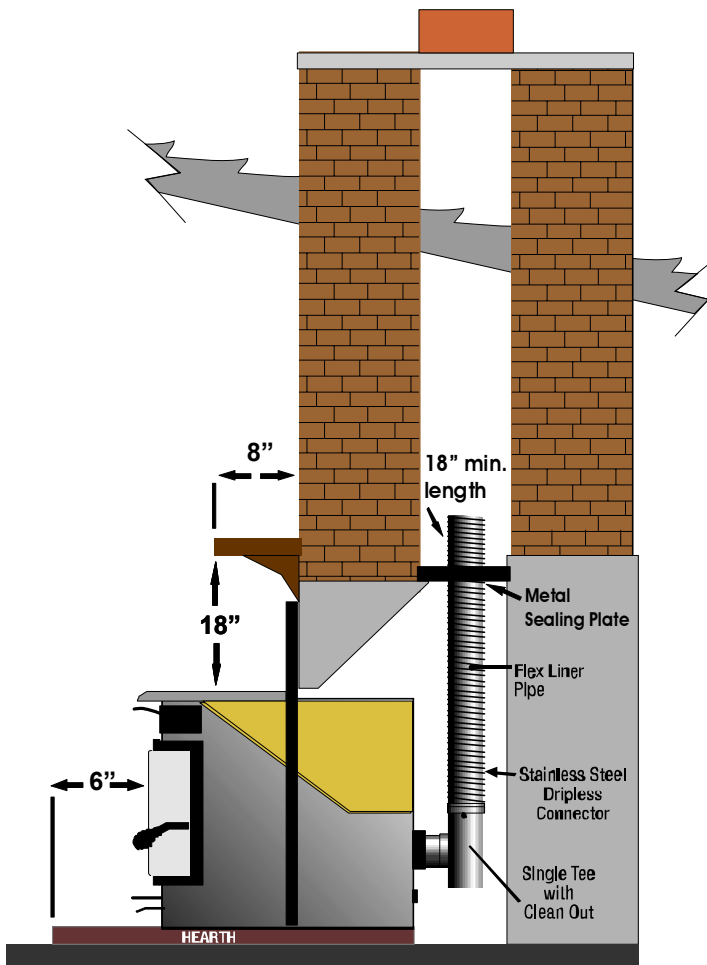
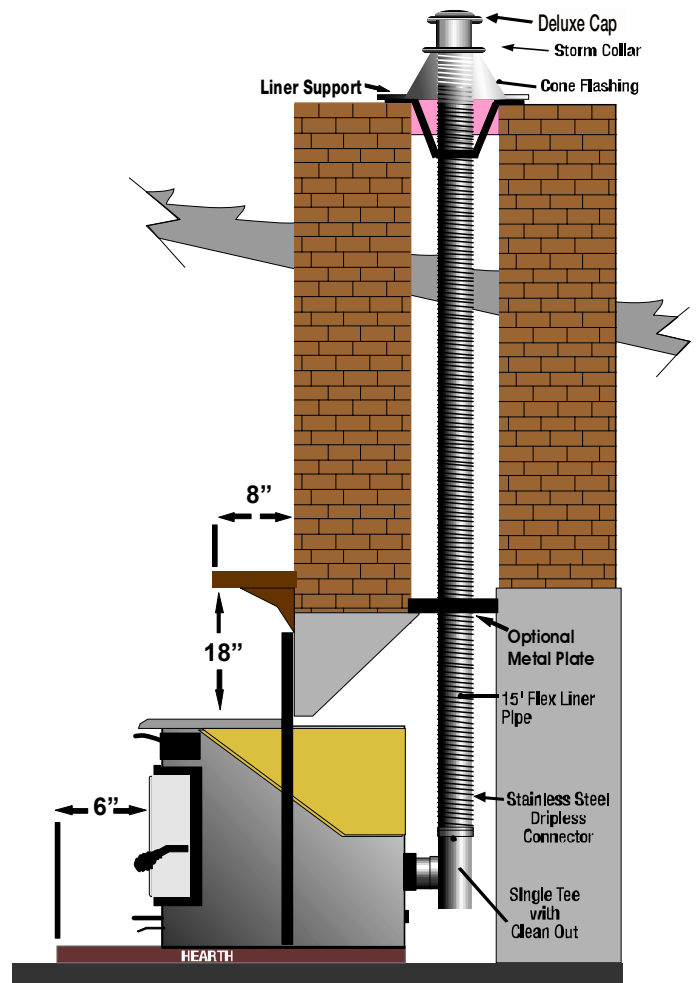

Figure 25
Figure 26
The *PELPRO* Insert may be installed in a masonry or factory built fireplace as shown in Figure 25 & 26
- The Vent Pipe Must Extend Above The Damper into the first tile of the flue liner (Figure 25) in the USA and to the top of the chimney CANADA (Figure 26). The chimney must not be corroded or damaged in any way for this type of installation to be permitted. A direct vent may be made through the chimney structure if local codes permit.